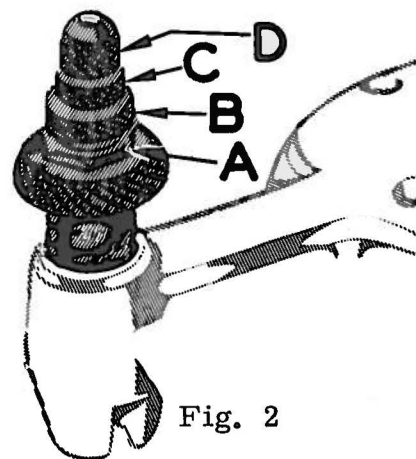

Fig. 2
Sufficient pressure to feed the work uniformly should be maintained. Should it be necessary to increase or decrease amount of pressure on presser foot, loosen lock nut (A, Fig. 2), and turn adjusting screw (B). Adjusting screw has a right hand thread; tightening will increase pressure, loosening decreases the pressure. When pressure adjusting screw (B) has been properly set, tighten the lock nut (A). With presser foot resting on throat plate, position locking nut (C) so that its under surface is approximately 1/32 inch to 1/16 inch from the top surface of the adjusting screw (B). Set cap (D) against locking nut (C).